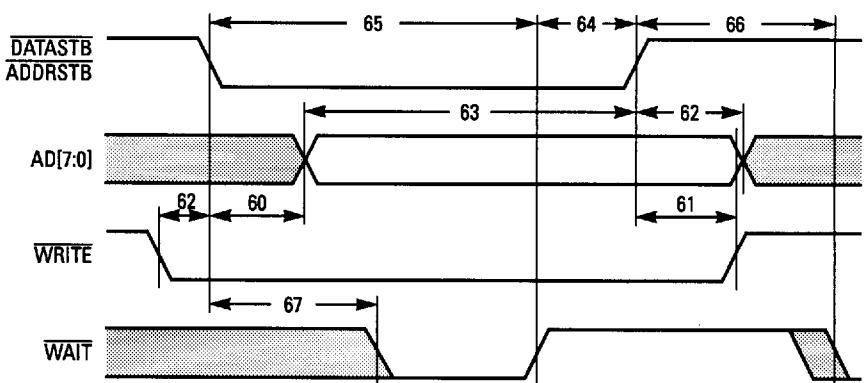

Figure 5.7
- Figure 5.7, "EPP Read Cycle"